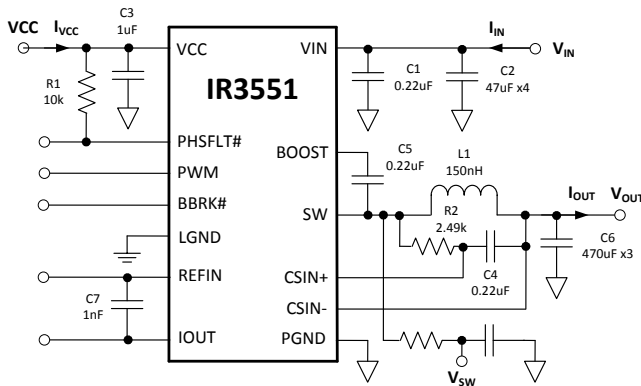

Figure 32: IR3551 Power Loss Measurement
Circuit of Figure 32, $V_{IN}=12V$, $V_{OUT}=1.2V$, $f_{SW} = 400kHz$, $L=150nH$ (0.29mΩ), $VCC=7V$, $T_{AMBIENT} = 25^{\circ}C$, no heat sink, no air flow, 8-layer PCB board of 3.7" (L) x 2.6" (W), no PWM controller loss, no inductor loss, unless specified otherwise.
Circuit of Figure 32, $V_{IN}=12V$, $V_{OUT}=1.2V$, $f_{SW} = 400kHz$, $L=150nH$ (0.29mΩ), $V_{CC}=7V$, $T_{AMBIENT} = 25^{\circ}C$, no heat sink, no air flow, 8-layer PCB board of 3.7" (L) x 2.6" (W), no PWM controller loss, no inductor loss, unless specified otherwise.
The single-phase IR3551 efficiency and power loss measurement circuit is shown in Figure 32.